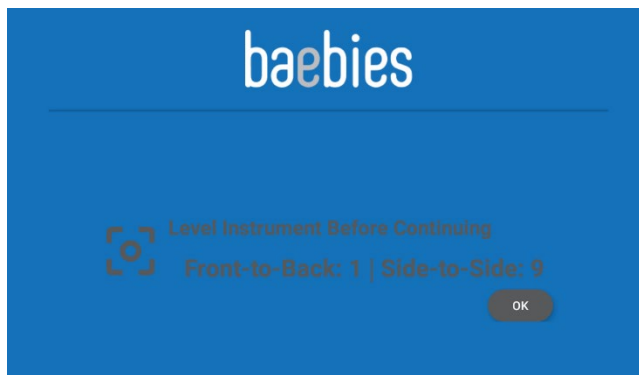

Figure 6 - Instrument Level Display
- If the instrument is not level, the initial user setup cannot proceed. In this case, the VIEWER Application will prompt the user to level the instrument before continuing (Figure 6). The “Front-to-Back” and “Side-to-Side” numbers reflect the unbalance. Adjust the leveling feet of the FINDER 1.5 Instrument by turning them clockwise or counter-clockwise to raise or lower the feet and balance the instrument. When the “Front-to-Back” and “Side-to-Side” measurements are within the instrument defined limits, the “OK” button will become active. If you are not able to level the deck, contact FINDER Technical Support for assistance.